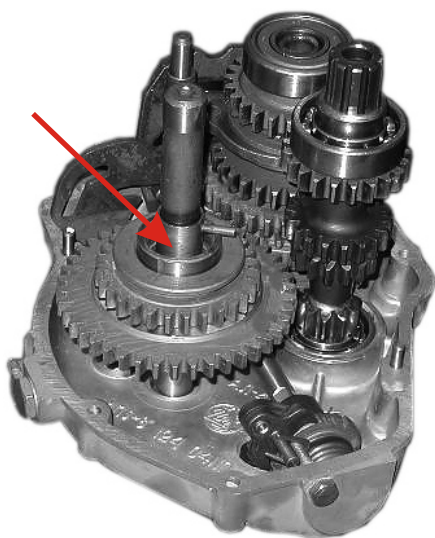

Fig. 52
- Fit the kick-starter shaft with gears into the cover bringing the gears in mesh (Fig. 52);